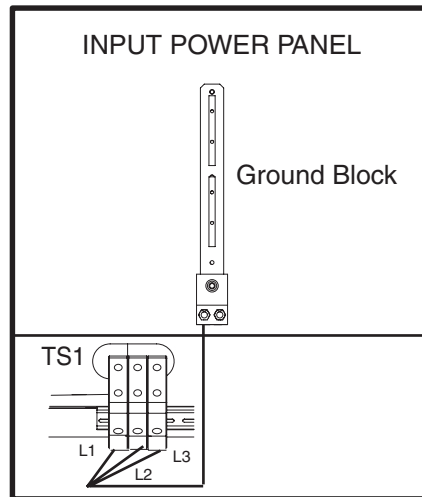
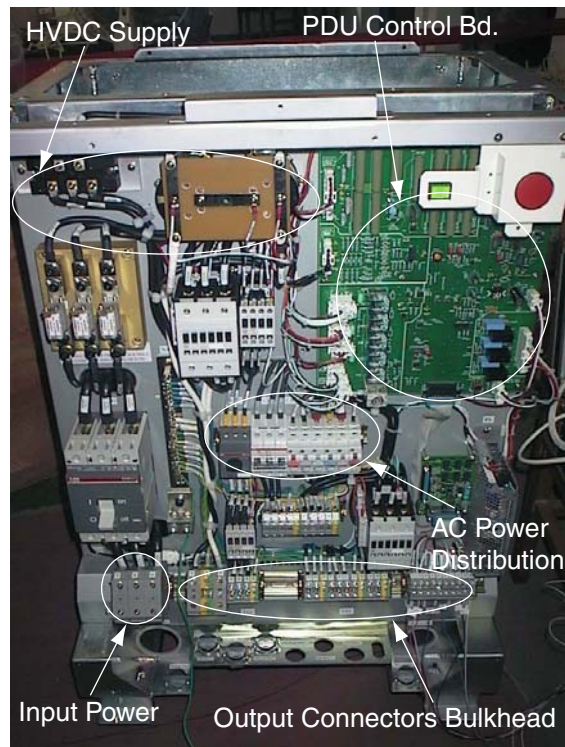

Figure 1-60 Input Power Panel Connections
Figure 1-62 PDU Area Locations
- 5.) Attach the cables as shown in Figure 1-60 and Figure 1-62.